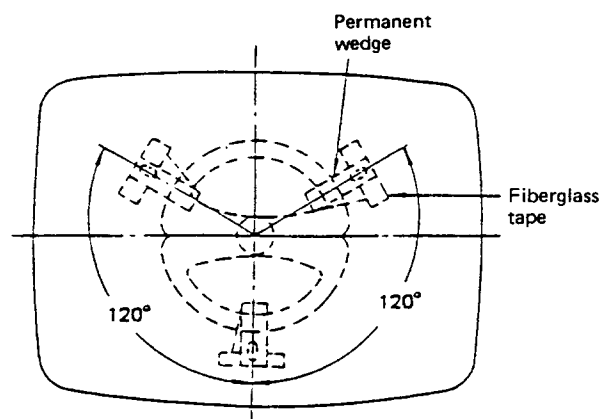
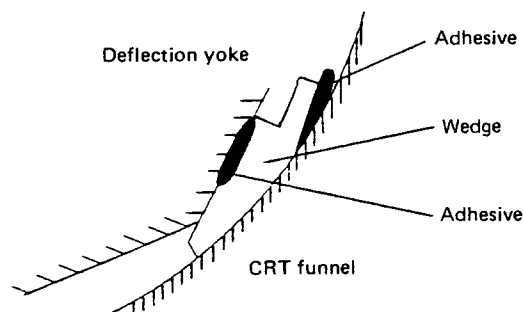

Fig. 25
Fig. 26
- (10) Insert the first "permanent" wedge between the bottom of the Deflection Yoke and the CRT, the second wedge at the 2 o'clock position, and the third wedge at the 10 o'clock position as shown in Fig. 25.
- (11) Apply a suitable adhesive (GE RTV162 or equivalent) between the permanent wedge and CRT Funnel as shown in the Fig. 26 below.
- (12) Remove the "Temporary" wedges. With special attention to maintain the exact yoke position, push the three permanent wedges into stabilize the yoke.
- (13) Apply a fiberglass tape (Scotch 69 or equivalent) to the wedges and CRT funnel as shown in the Fig. 25.